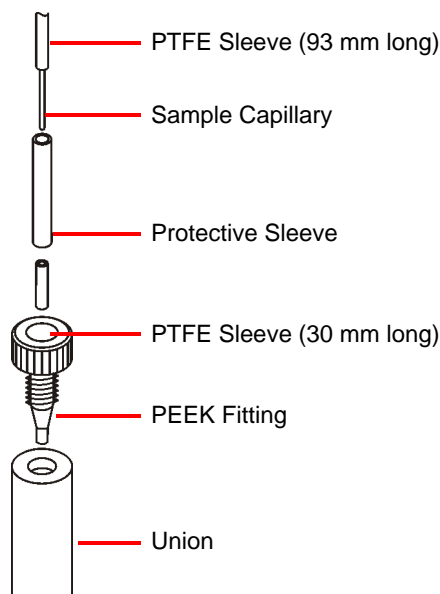

Figure 8-26 Probe Support Assembly
5. Remove the PEEK fitting and PTFE protective sleeve from the sample capillary (Figure 8-26).